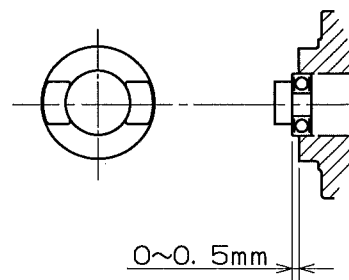

Fig.14
- ① Install Ball bearings(12),(15) onto Chain wheel(14).
Set up Ball bearing(15) to protrude 0~0.5 mm from the non-jut end face of Chain wheel as shown in Fig. 14.
② Install Retaining ring(11) in Casing(1).
③ Install Chain guide(13) in Casing(1), then install Chain wheel(14) from the gear side.
④ In case Lock screw(21) has not been removed: